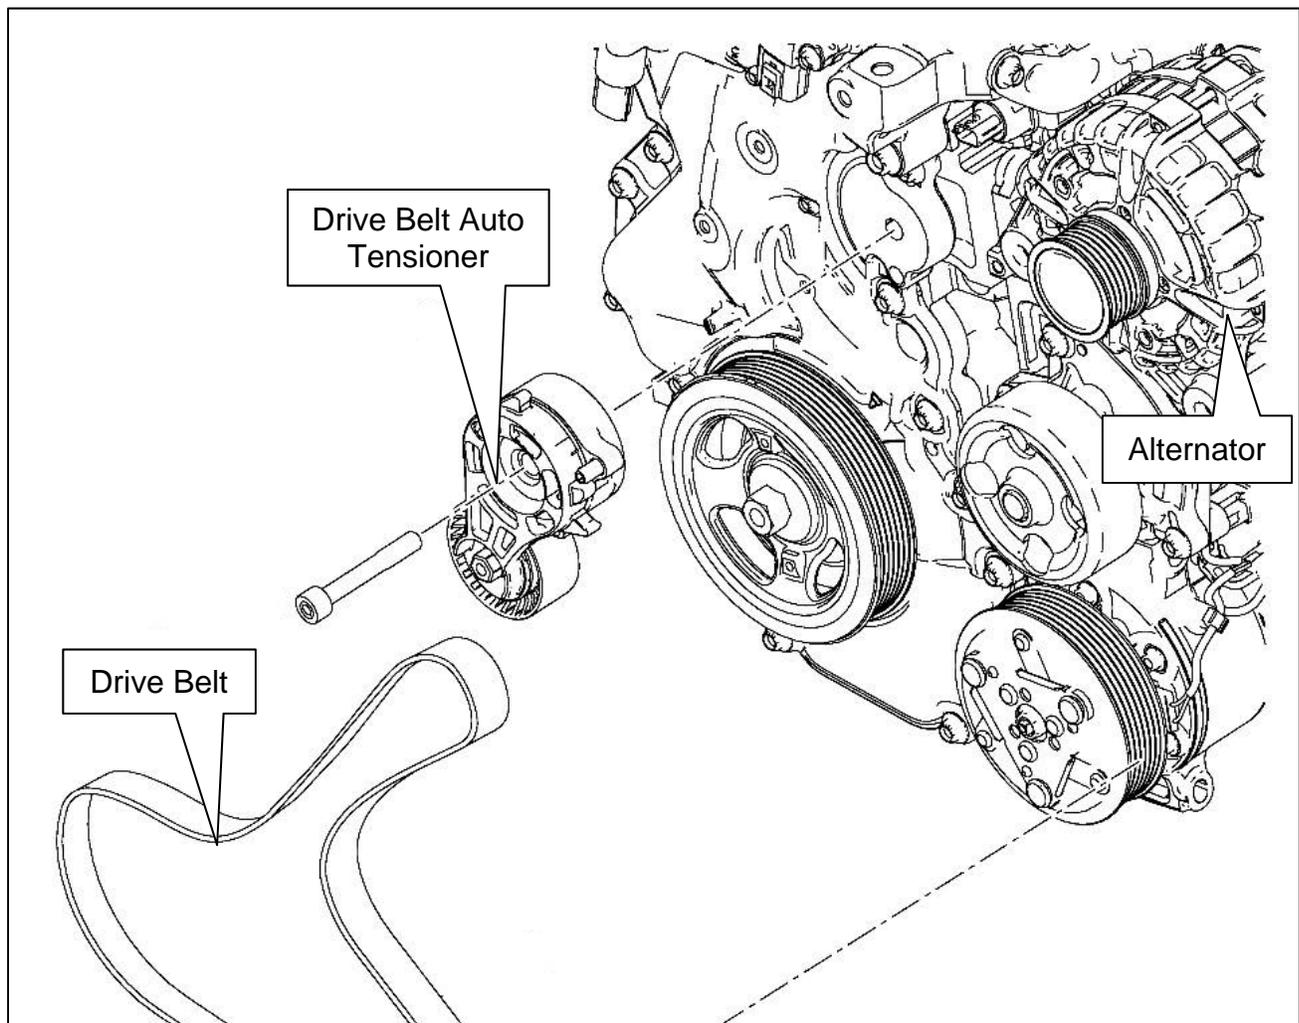

Figure 1
1. Replace the Alternator, the associated Drive Belt, and the Drive Belt Auto Tensioner (Figure 1).